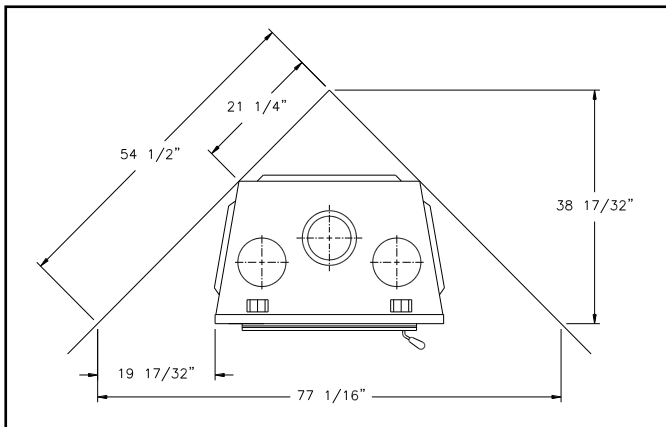

Figure 8
The construction of the framing, facing, and mantel must be in accordance with the standards and the following illustrations (figures 8 to 12):
3. Frame the fireplace with vertical studs at the sides of the fireplace running from floor to ceiling (see figure 8). If combustible facing is to be used, position the studs back, from the front edge of the fireplace, a space the thickness of the facing material so that the facing can be installed flush with the fireplace facing. Frame headers between the vertical studs only as follows: